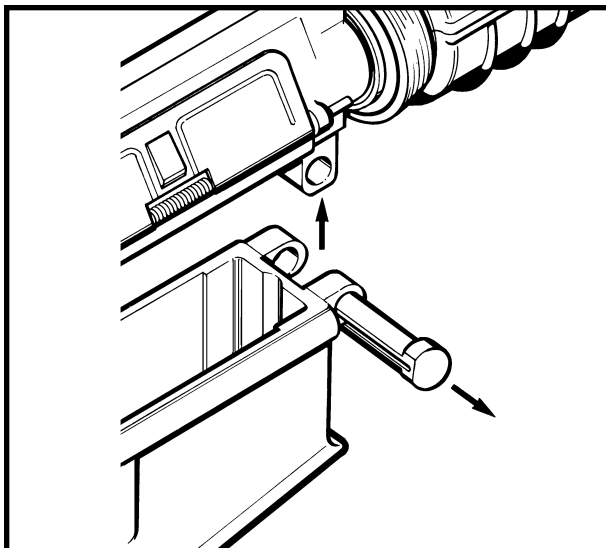

Figure 3-2-7 Separating the Receivers
- f. Push the receiver pivot pin all the way to the right. See Figure 3-2-7;